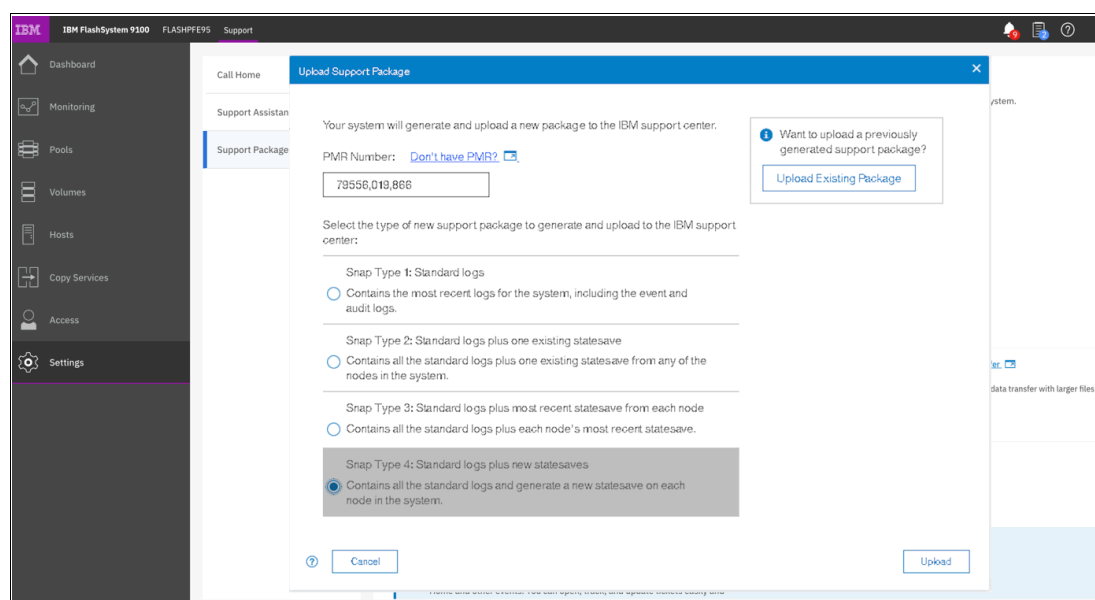

Figure 10-6 Upload Support Package panel
4. The *Upload Support Package* panel is shown in Figure 10-6.